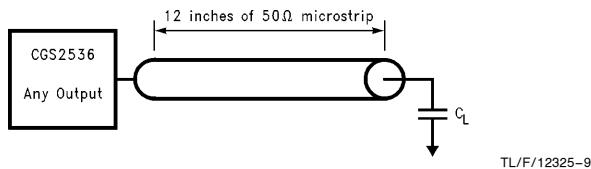

FIGURE 4. A.C. Load (Reference Note 7)
**Note 7:** These Rise and Fall times are measured driving 12 inches of  $50\Omega$  microstrip terminated with equivalent  $C_L = 25 \text{ pF}$  (see *Figure 4*), and are guaranteed by design.